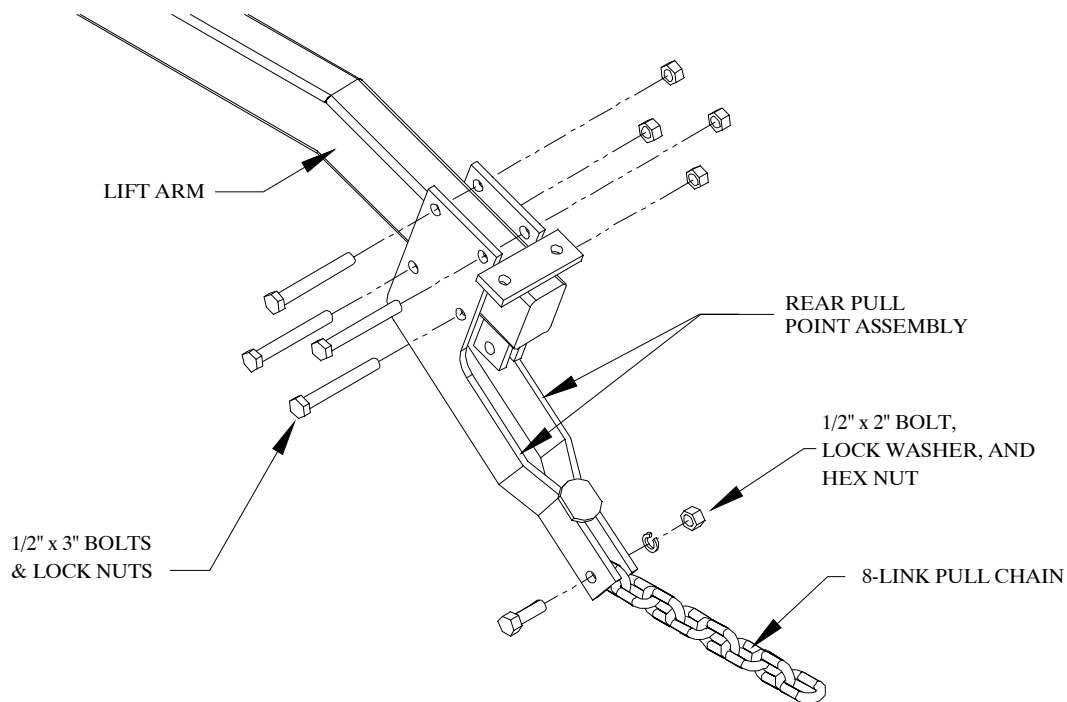

Figure 13
5. *Attach a rear pull point assembly to the rear end of each lift arm. Use four ½" x 3" bolt and lock nuts. Refer to Figure 13.*
6. *Bolt an 8-link pull chain to the end of the rear pull point assembly with a ½" x 2" bolt, lock washer, and hex nut. Refer to Figure 13. This chain will connect to the first bar of the second set of harrow sections.*